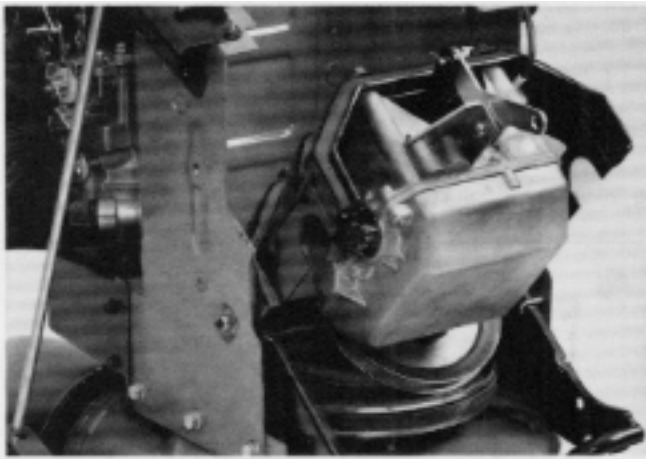

Figure 79
7. Remove the two rear nylon locknuts securing the transmission frame to the snowthrower frame and swing the assembly down, out of the unit. Be careful not to damage the reverse cable. See Figure 79.